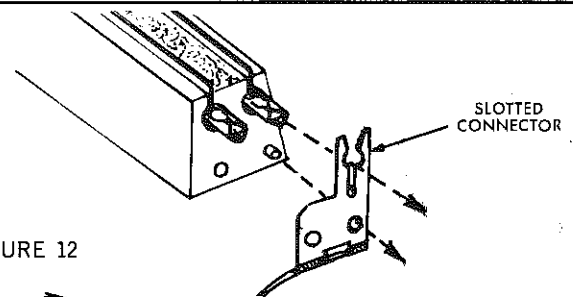

FIGURE 12
□ Note that the connecting wires have a spade lug at one end and a special slotted brass connector at the other. Fit one of these connectors to the end of the track section so that the slot in the connector snaps over the track clip. The little knob in the track end should fit through one of the holes in the connector. (Fig. 12)